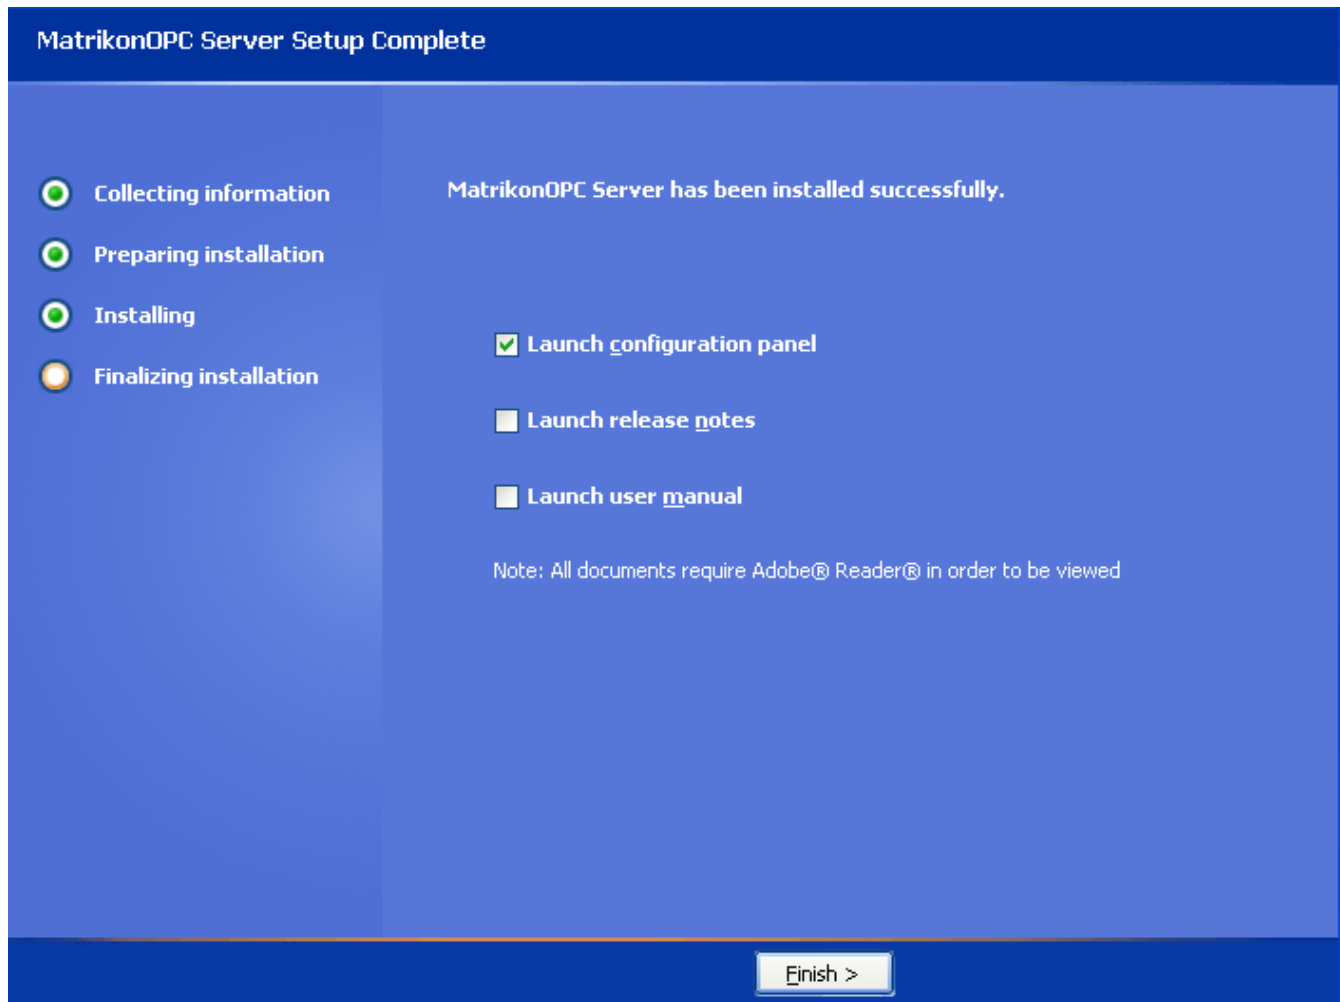

Figure 76 - MatrikonOPC Server Setup Complete Screen
20. When the installation has finished, the **MatrikonOPC Server for IEC 61850/61400-25 Setup Complete** screen (Figure 76) appears stating that the MatrikonOPC server has been successfully installed.